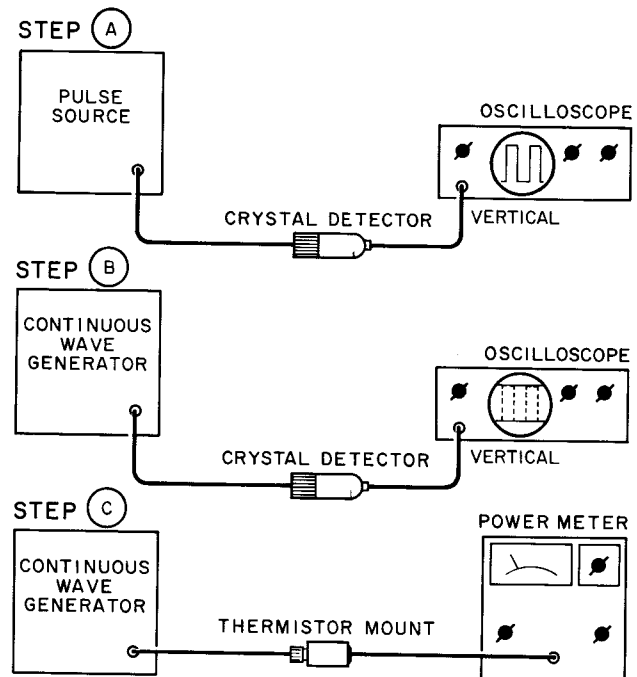

Figure 1. Peak Power Measurement
**27. Peak Power Measurement.** The arrangement of equipment for peak power measurement is shown in Figure 1. The procedure involves calibration of an oscilloscope which, in turn, is used to calibrate a CW generator. The output of the calibrated CW generator is measured with a power meter; the peak power of a pulse is thereby measured. The procedure is as follows:
- Connect equipment as shown in Figure 1, step a. Observe pulse on a dc-coupled oscilloscope. Using a marking pencil, mark on the graticule the base-to-peak amplitude of the pulse envelope.